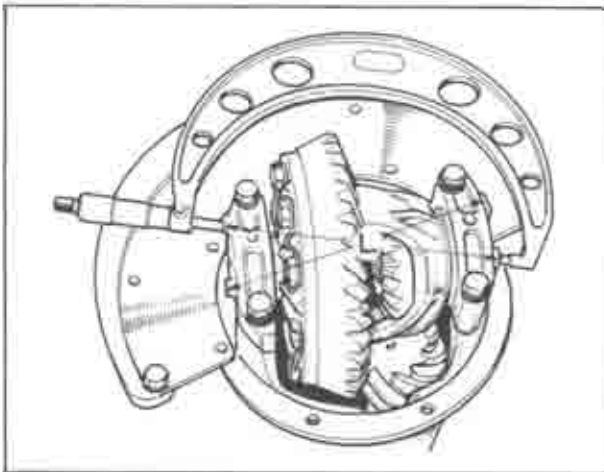

Fig. 9-31 Adjusting bearing preload (case spread)
3. The preload on the differential bearings is obtained by tightening the adjusters. Tighten the adjusters until the distance between both pilot sections on the bearing caps becomes  $185.428 \sim 185.5 \text{ mm}$  ( $7.3004 \sim 7.3033 \text{ in}$ ), as shown in Fig. 9-31.